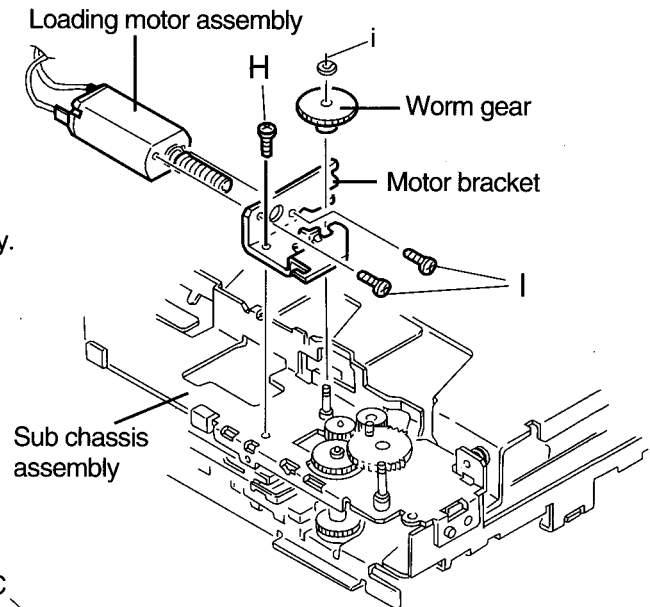

Fig. 11
■ Removing the Loading Motor Assembly (See Fig. 11)